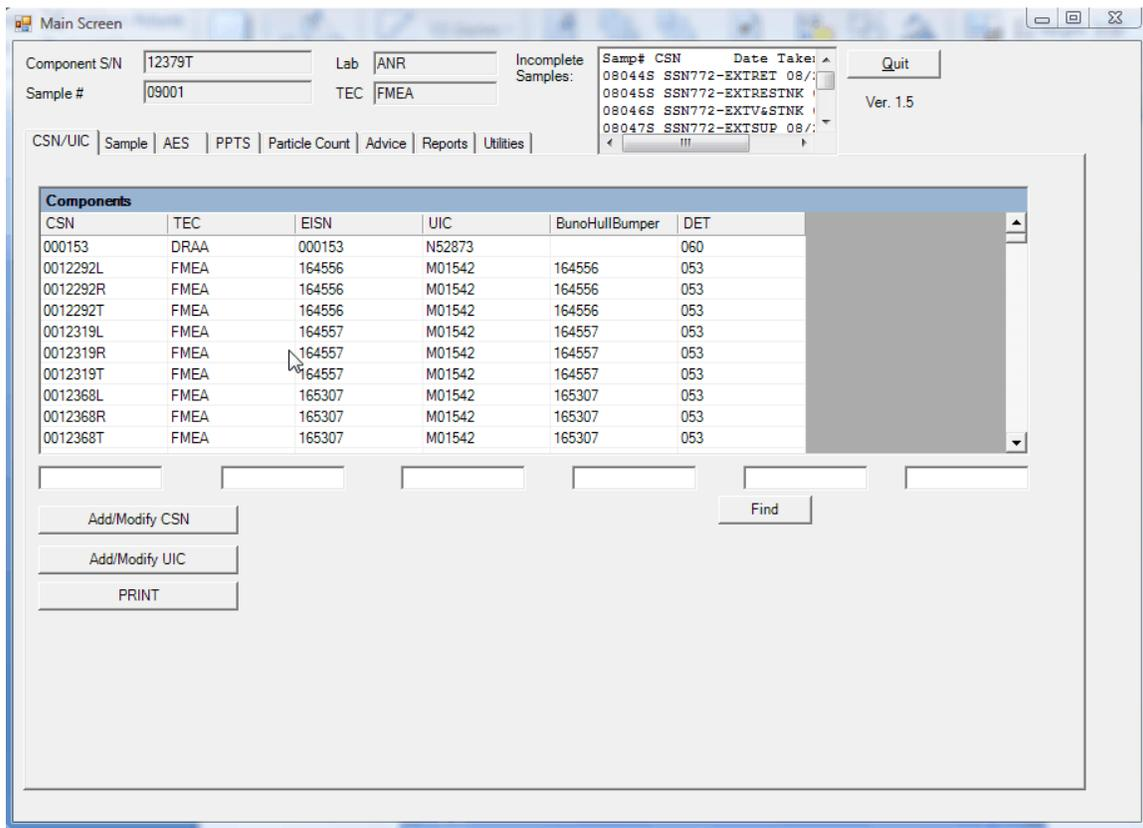

Figure 24. CSN/UIC Tab
- (1) From the main screen press the CSN/UIC tab and the following screen will appear (Figure 24). Deleting a component is done only if the component has been taken out of service. Deleting the component will not delete the samples. They will stay in your database until they are purged.